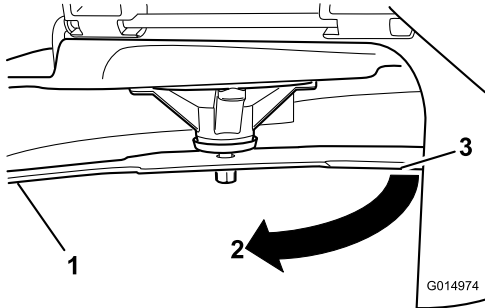

**Figure 59**
5. Measure from the tip of the blade to the flat surface (Figure 59).